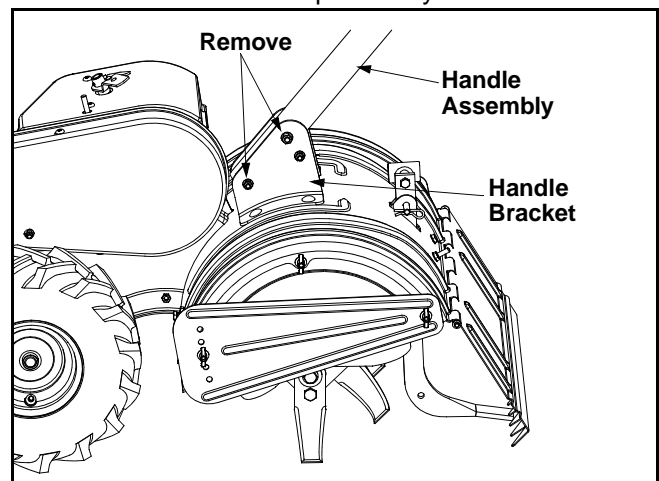

Figure 2
- Remove top two bolts and flange lock nuts from handle mounting brackets, but do not remove the bottom bolt and nut. See Figure 2.